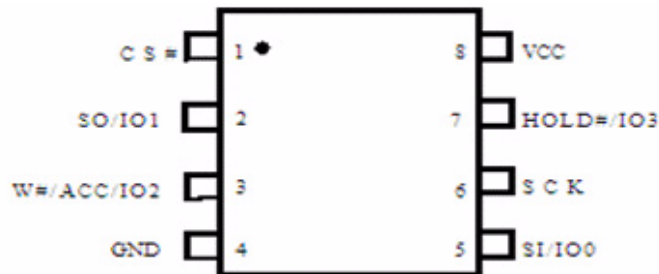

Figure 17. 32MBit Flash with SPI Bus
The Spansion S25FL032A 32Mbit device, shown in Figure 17, is a 3.0V (2.7V to 3.6V) single-power-supply Flash memory device that accepts data written to a serial input (SI) and outputs data on a serial output (SO). Upon installing the ZDSII software, refer to the following sample project folders for source code which can be used to read and program SPI Flash memory: